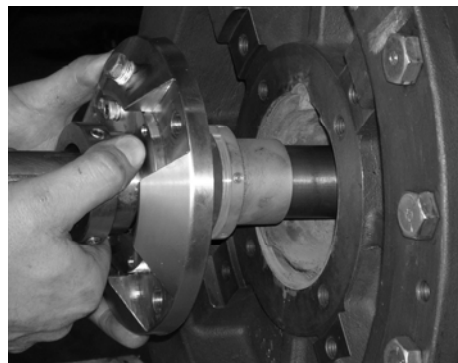

Figure 32: Removing the Cartridge Seal
3. Remove the cartridge seal from the shaft. (See Figure 32.)